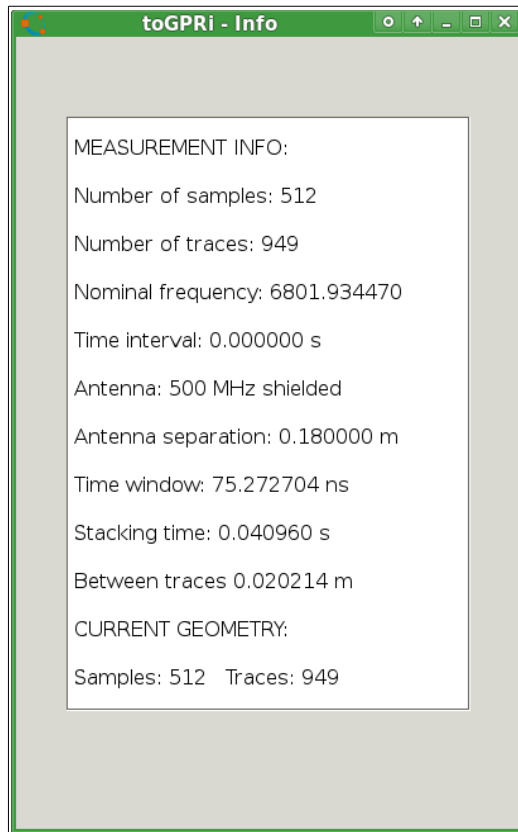

Figure 16. Info box.
**Radargram info** extracts the main information data of the corresponding *.rad* file and also show us the current geometry (figure 16).